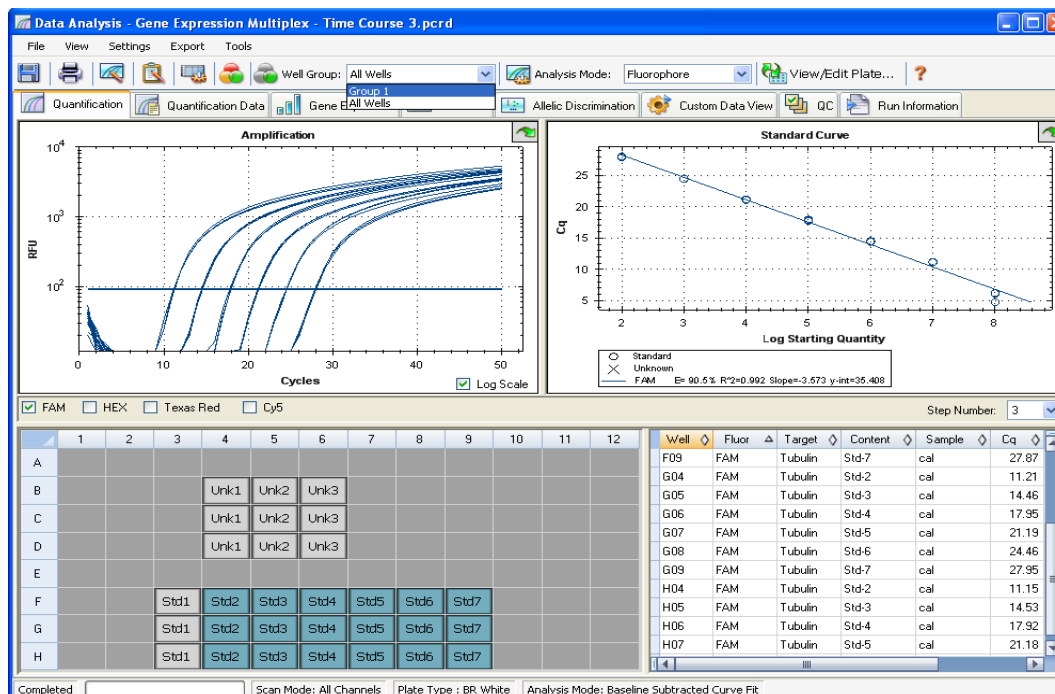

Figure 50. Quantification tab in the Data Analysis window with Group 1 selected.
Each tab in the Data Analysis window displays data in charts and spreadsheets for a specific analysis method and includes a well selector to select the data you want to show. The Data Analysis window opens with the Quantification tab (Figure 50) in front. The **Amplification** chart data in this tab should be used to determine the appropriate analysis settings for the run.
Figure 50 shows Group 1 selected in the Well Groups menu. Only the wells in that well group appear loaded with content in the well selector, and only data for those wells are included in the data analysis calculations.
1. Select one fluorophore in the fluorophore selector in the Quantification tab (Figure 50) by clicking the boxes next to the fluorophore name located under the Amplification chart.
1. Select a single fluorophore in the Quantification tab (Figure 50) by clicking the box next to the fluorophore name located under the Amplification chart.